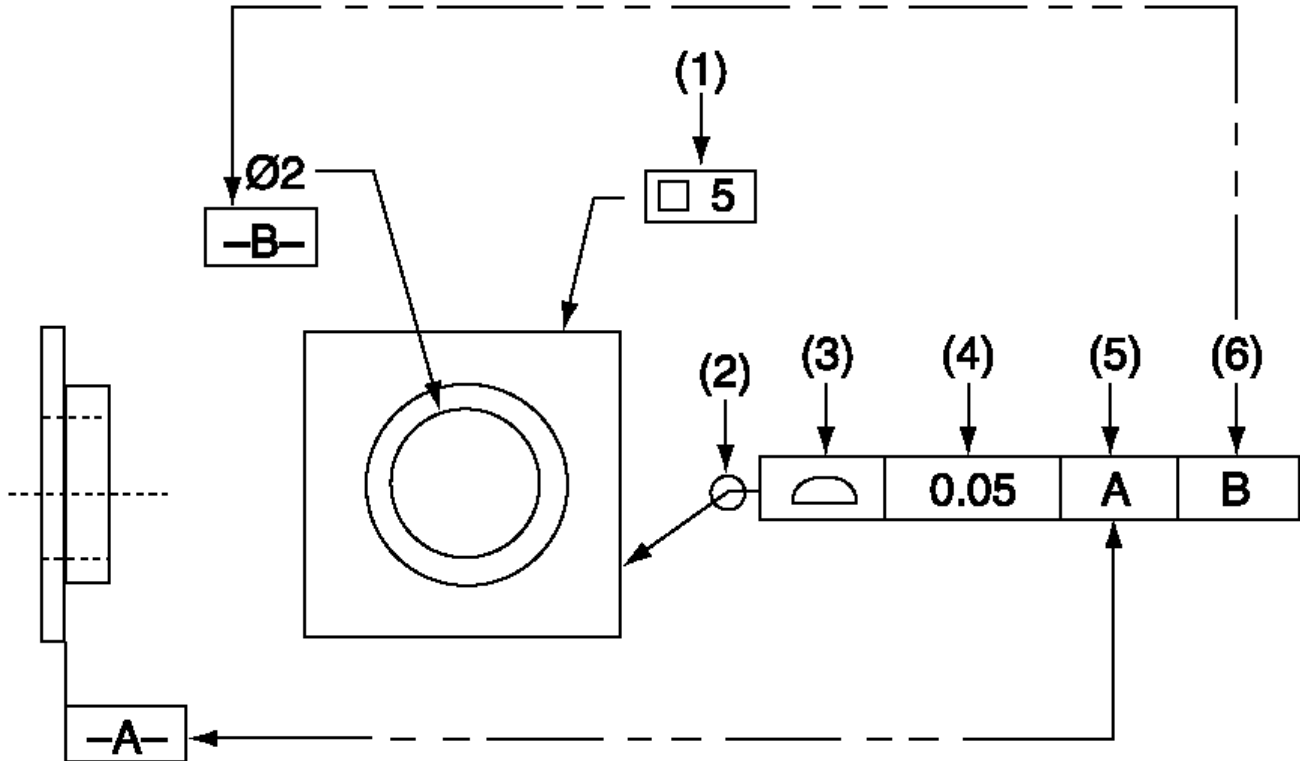

Figure 22
GD&T is expressed in the *feature control frame* (Figure 22). The feature control frame is like a basic sentence that can be read from left to right. For example, the feature control frame illustrated would read: The 5 mm square shape (1) is controlled with an all-around (2) profile tolerance (3) of 0.05 mm (4), in relationship to primary datum A (5) and secondary datum B (6). The shape and tolerance determine the limits of production variability.